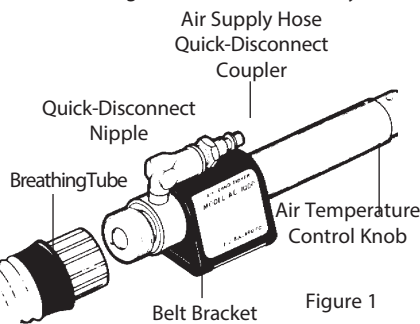

Figure 1
6. To obtain cooler air, turn the air temperature control knob counter-clockwise (Figure 1). Maximum cooling is attained when knob is fully open and when there is maximum airflow out of the AC1000 exhaust port.